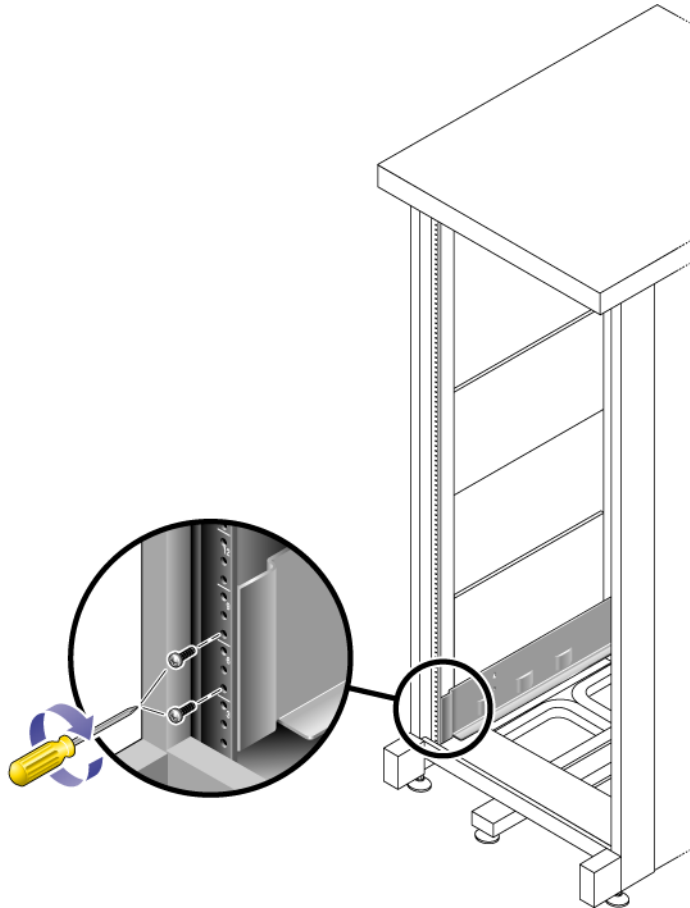

FIGURE 2-3 Securing the Left Rail to the Front of the Cabinet
2. Use the No. 2 Phillips screwdriver to insert and tighten two 8-32 screws to secure the left rail to the front of the cabinet (FIGURE 2-3).